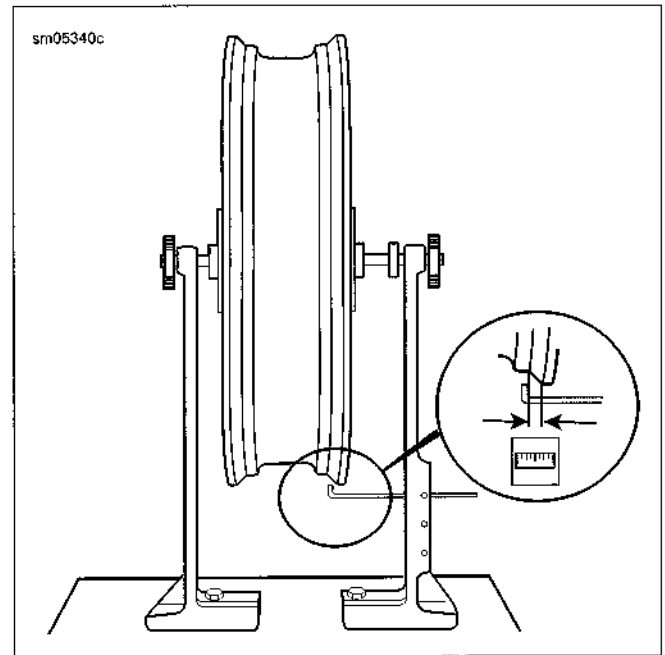

Figure 2-40. Lateral Runout
1. See Figure 2-40. Point the gauge rod or indicator at the rim bead flange.